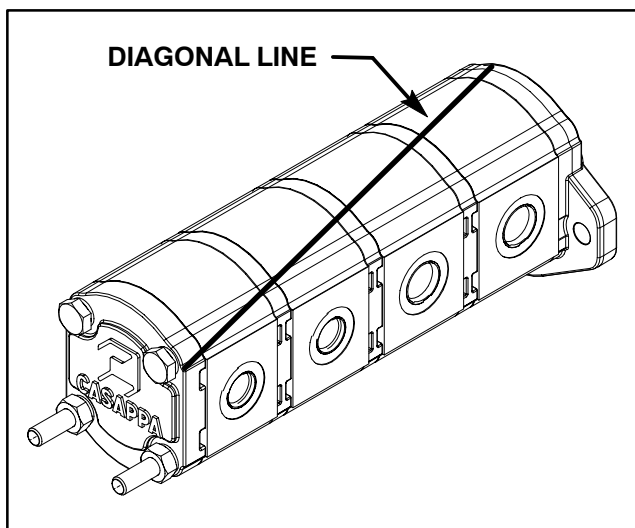

Figure 39
2. Use a marker to make a **diagonal** line across the gear pump for assembly purposes (Fig. 39).